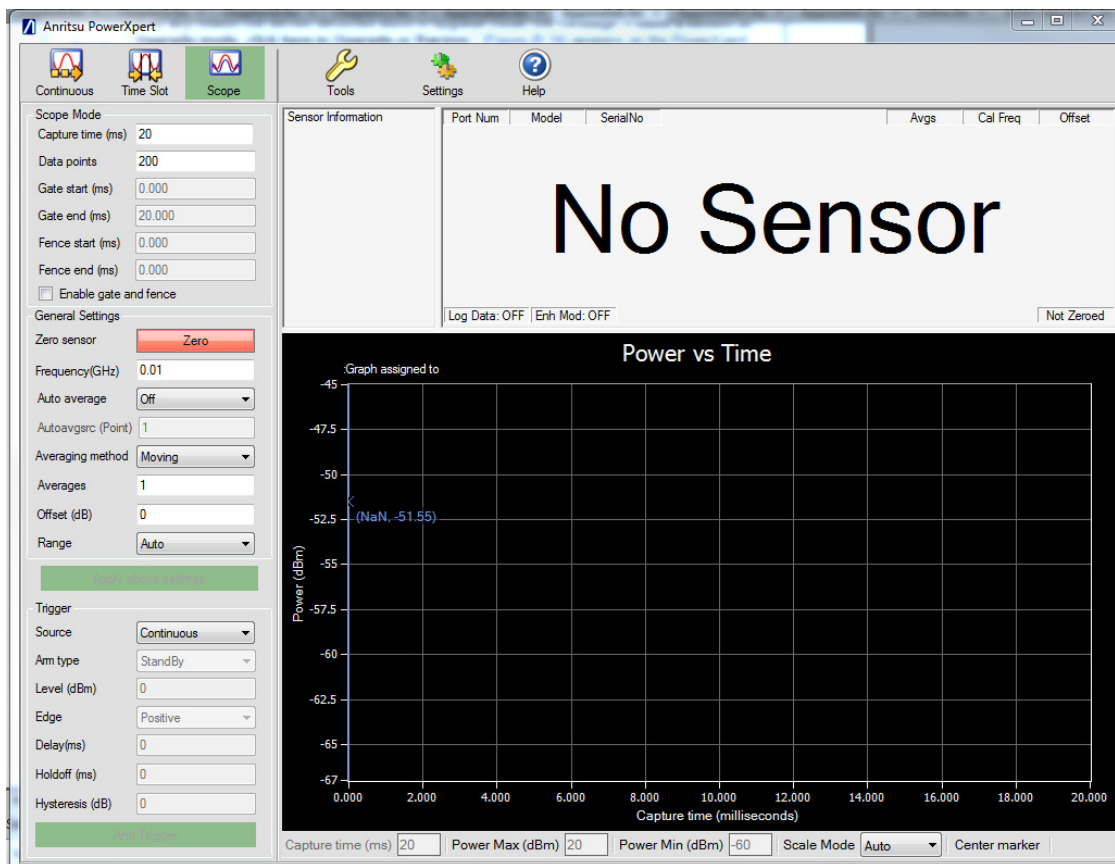
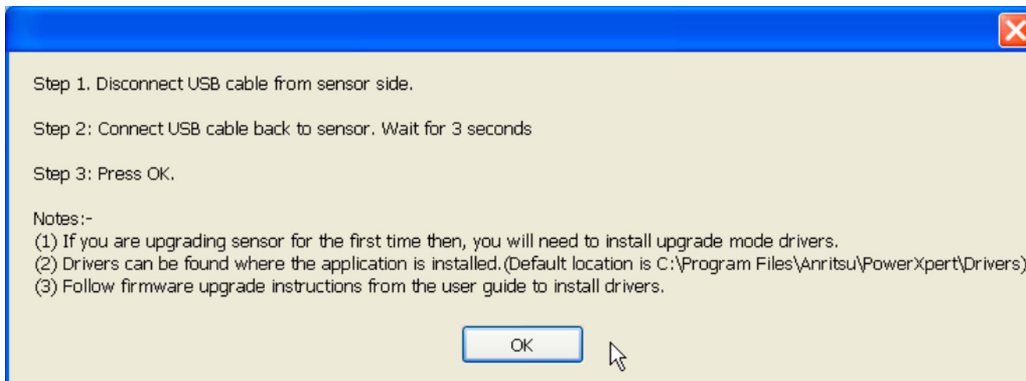

Figure B-13. Sensor in Upgrade Mode Indication
Figure B-15. Firmware Upgrade Dialog
If for any reason the sensor becomes stuck in upgrade mode, the message **“Found a sensor in Upgrade mode, click here to Upgrade or Restore.”** (Figure B-13) appears on the PowerXpert window. Click on the message to continue the upgrade or to restore the sensor to its original firmware state. Follow the instructions below starting at Step 7.
When this command is sent, the message shown in Figure B-15 appears, the sensor goes into upgrade mode, and the sensor status LED turns amber color. The LED must turn green before continuing.
Install the driver **before** clicking **OK** in the dialog box shown above in Figure B-15. If **OK** is clicked before the driver is installed, the COM port of the sensor will not be enumerated in the upgrade utility and the upgrade cannot proceed. When this happens, disconnect the USB cable from the sensor, close and restart the PowerXpert application, then reconnect the sensor. The message shown in Figure B-13 on page B-7 will appear. Follow the instructions in the message to resume the upgrade.
7. If the upgrade driver is installed, continue with the firmware upgrade by following the on-screen steps shown in Figure B-15. The same steps are listed below:
If for any reason the sensor becomes stuck in firmware upgrade mode, the message “**Found a sensor in Upgrade mode, Click here to Upgrade or Restore.**” appears on the PowerXpert window (see Figure B-13 on page B-7). To recover the sensor: